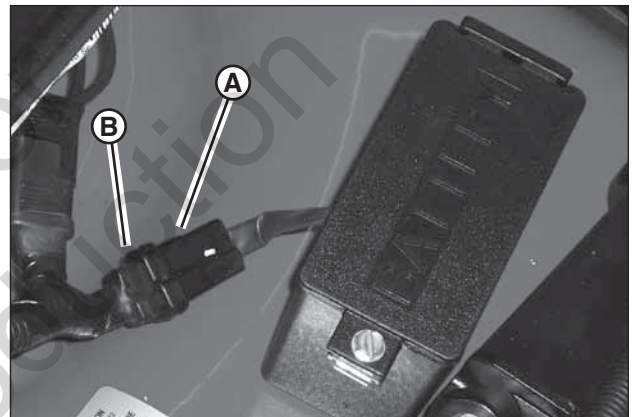

Figure 14: Charging the battery
1. Connect the battery charger to the battery connector (A, **Figure 14**), and plug the charger into a 120-volt outlet for 12-24 hours. (Longer periods will not damage the battery.)
2. Remove the charger from the battery connector, and connect the battery connector to the engine harness connector (B).